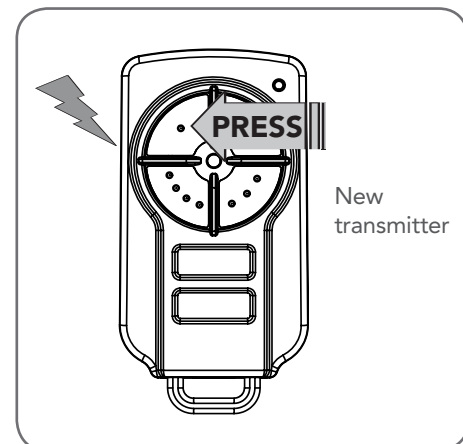

Fig 11.3
- Within 10 seconds, press the button on the new transmitter you wish to code for 2 seconds (**Fig. 11.3**).